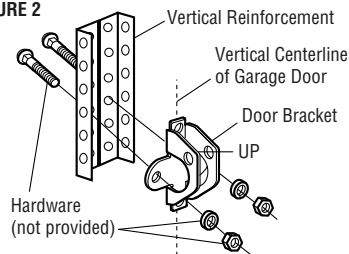

FIGURE 3
- Drill 3/16" fastening holes. Secure the door bracket using the self-threading screws. (Figure 3)